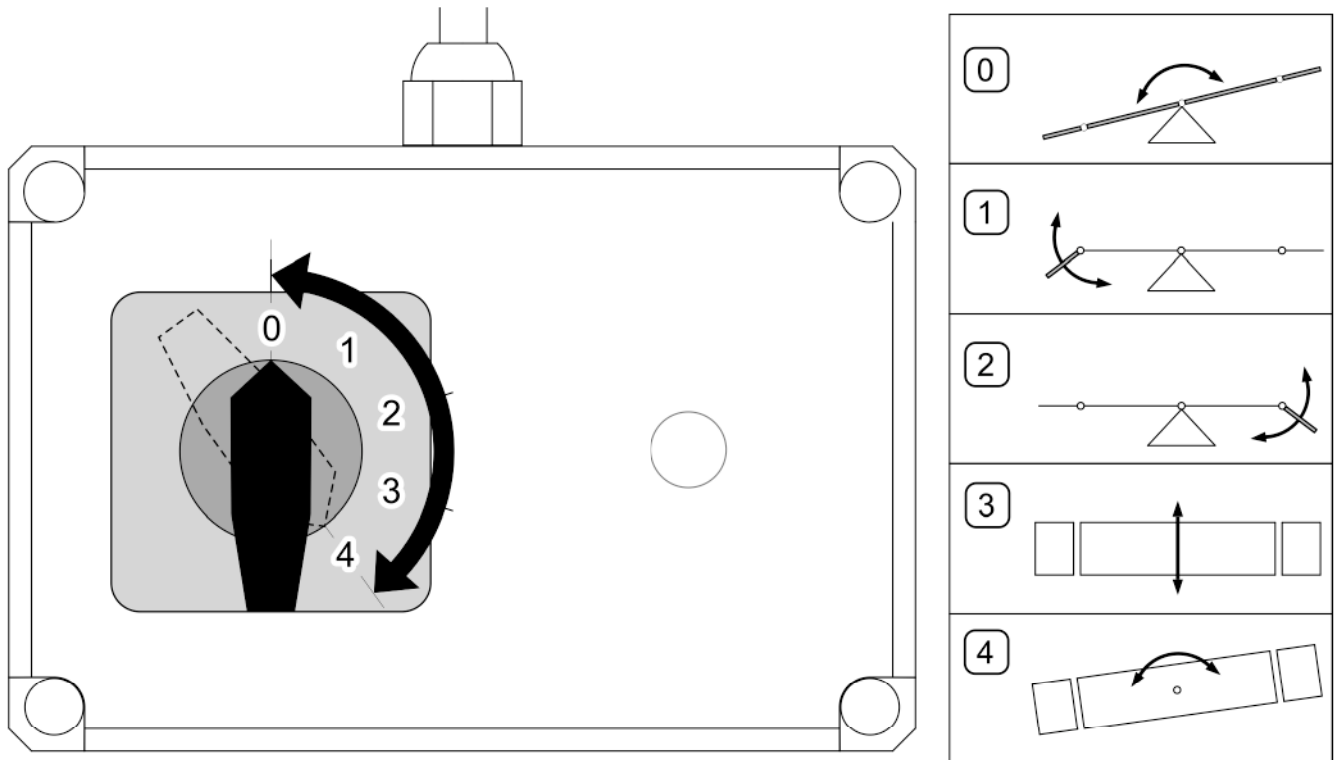

FIG. 4.5 Mouldboard control switch
(0) - controlling the mouldboard right/left turn; (1) - controlling the movement of the left side mouldboard; (2) - controlling the movement of the right side mouldboard; (3) - controlling the mouldboard rising/lowering (option); (4) - controlling the mouldboard tilt (option)
The scraper – blade is controlled with the aid of the external hydraulic system of the carrying vehicle. Depending on a selected position (0 ÷ 4) of the switch on the control panel (FIG. 4.5), individual functions of the machine can be controlled (0)
Switch position (FIG. 4.5)	Function description